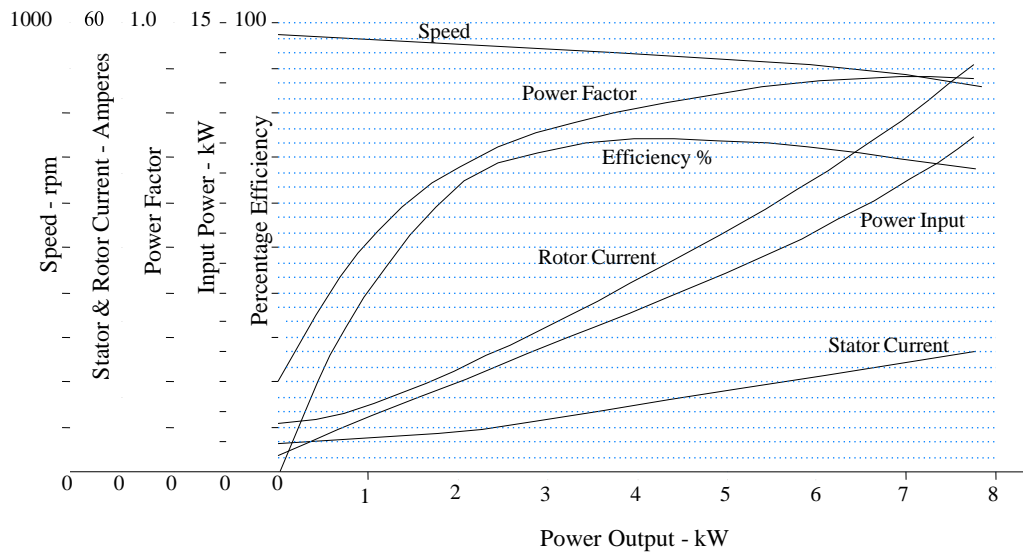

Figure 1
1. Figure 1 is a set of performance curves for a 5kW, 6 pole 415 volt squirrel cage induction motor. From the curves determine:-